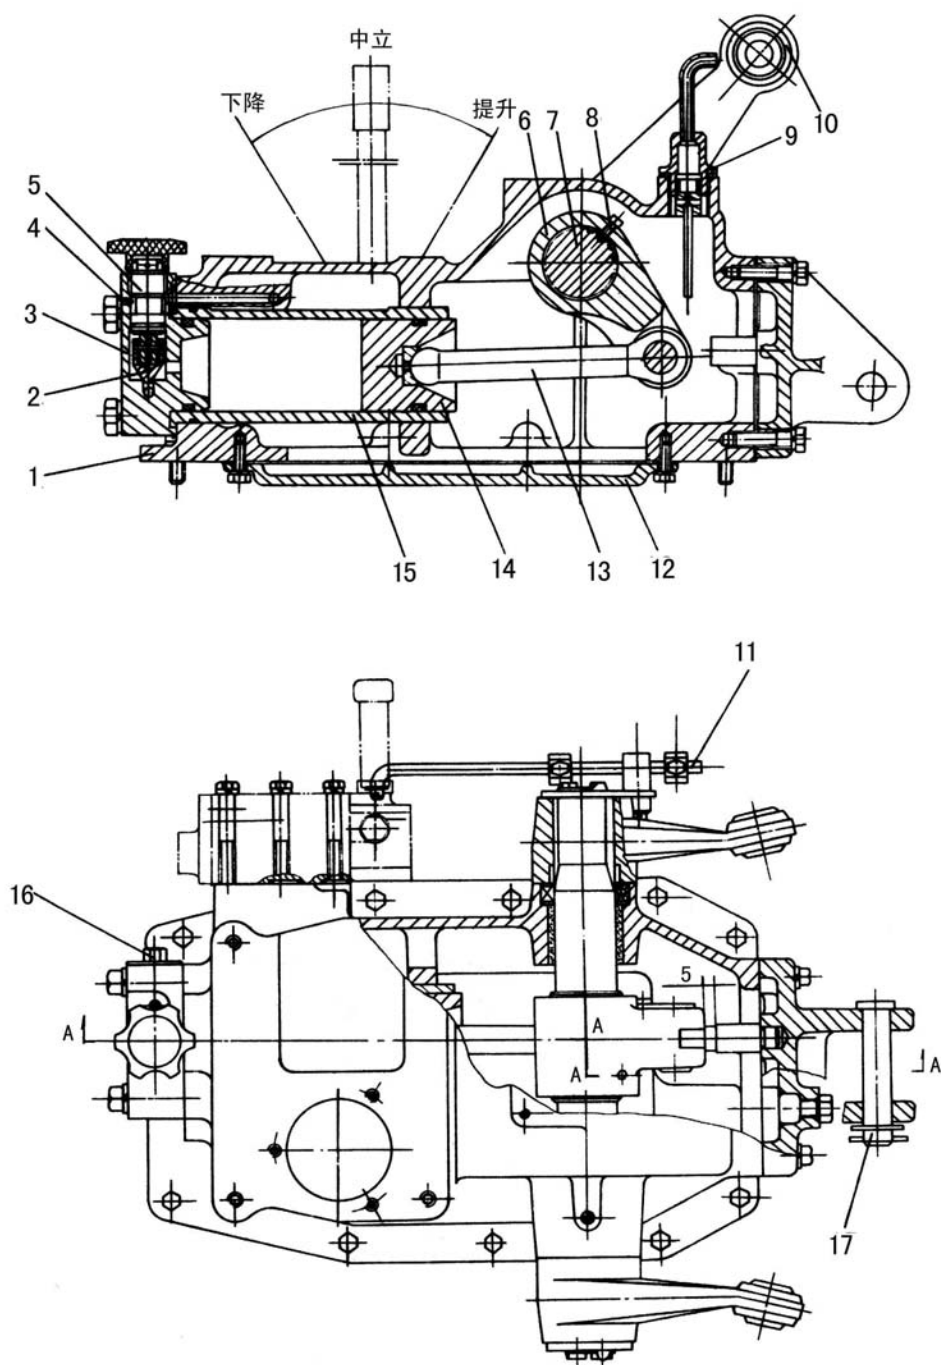

Fig.4-18 Lifter
③ Adjustment of lowering speed
During adjustment, the lowering speed of the implement can be adjusted through rotating the adjusting valve bolt (5) (see Fig.4-18). When the lowering speed is suitably adjusted, use check screw (4) to limit the moving range of adjusting valve bolt.
④ Adjustment of safety valve